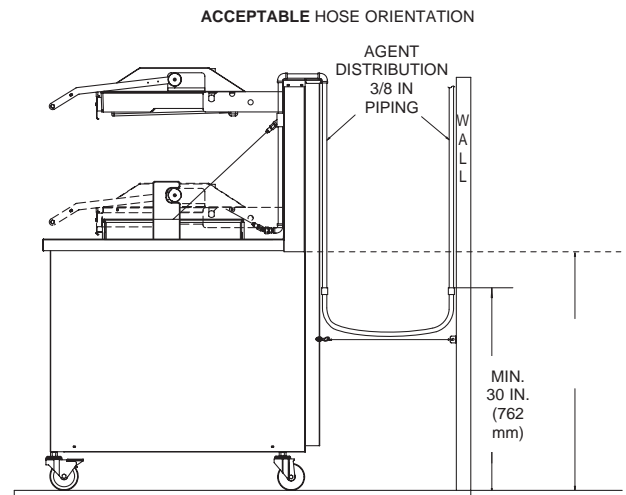

FIGURE 4-31
- 3/8 in. schedule 40 pipe will need to be run from the hose connection to the distribution nozzle(s) installed/affixed to the appliance. Pipe must be installed and adequately secured at a height at or below the cooking surface of the appliance. See Figure 4-31.
3. The Agent Distribution Hose should always be in a vertical natural loop, never having any bends less than a 3 in. (77 mm) radius (6 in. (152 mm) diameter), hose twists, or sharp bends. See Figure 4-31. If any of these conditions exist, the hose and/or hose connections will require installation modifications.
3. Check the hose and hose fittings and verify that the hose remains in a vertical natural loop with no noticeable fatigue at hose end couplings, no hose twists, no hose kinking or sharp bends. See Figure 4-31.